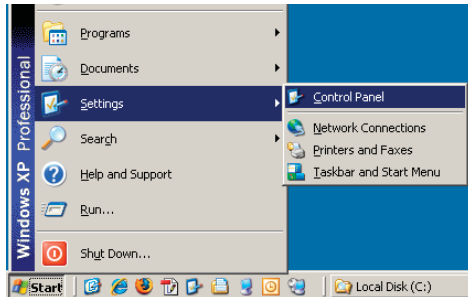
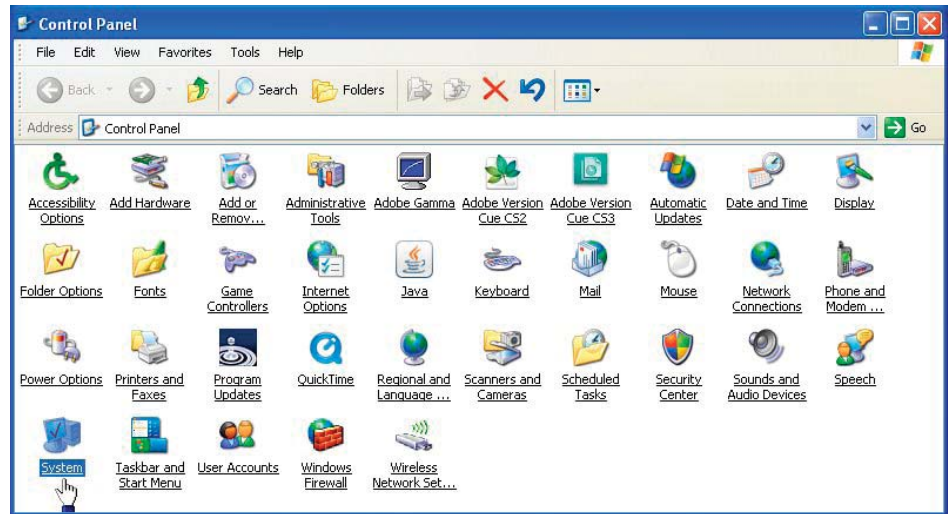

Fig. 52—Windows Start Menu
Fig. 53—Control Panel (bottom)
1. Open the **Device Manager**. In Windows XP, click **Start>Settings>Control Panel** (Fig. 52). The **Control Panel** window appears (Fig. 53).